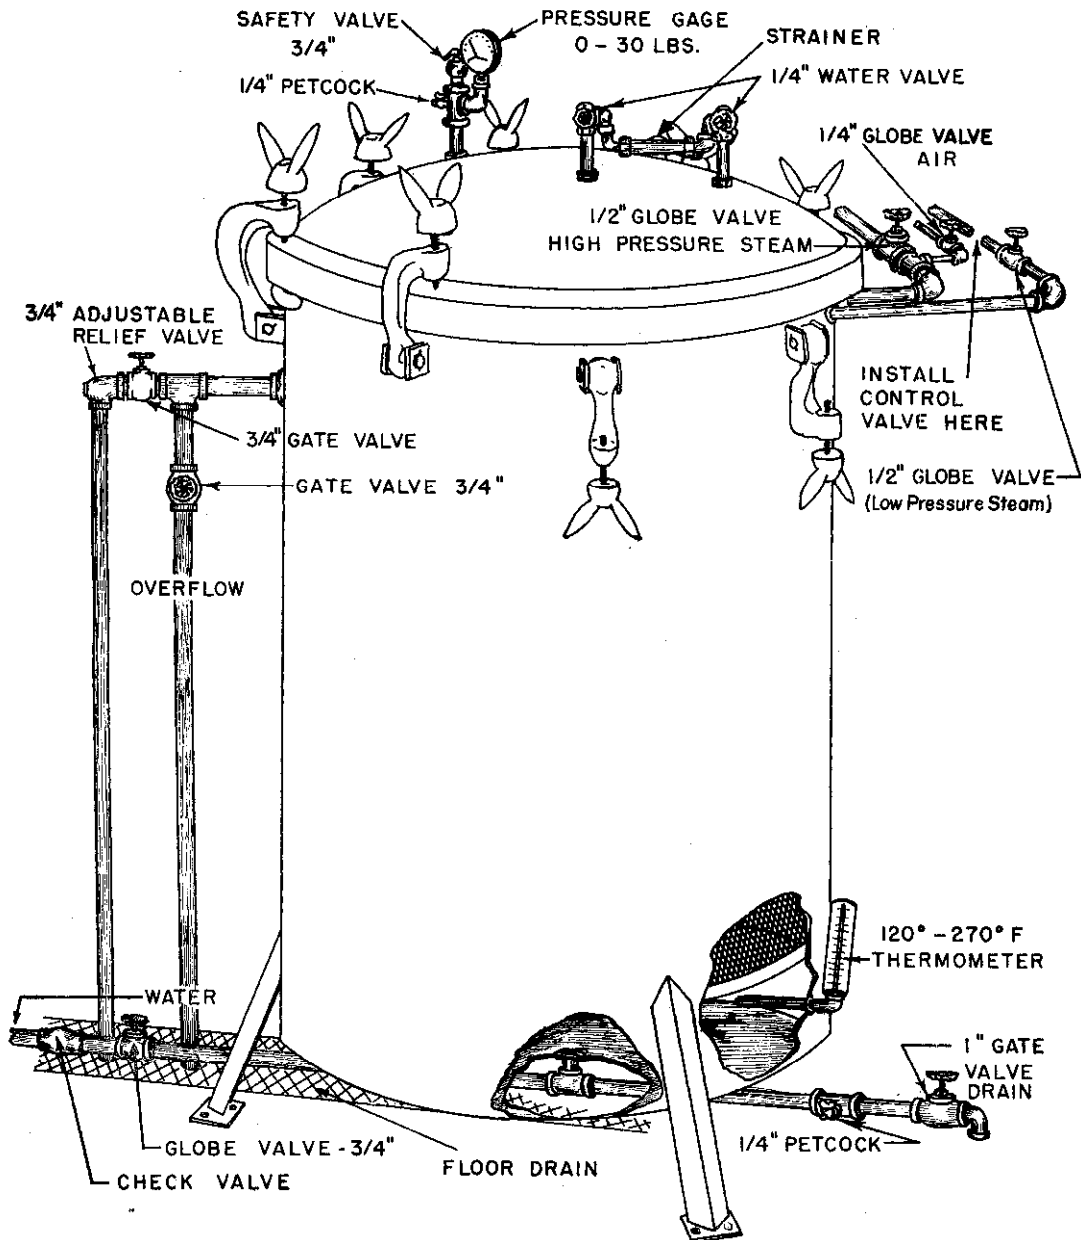
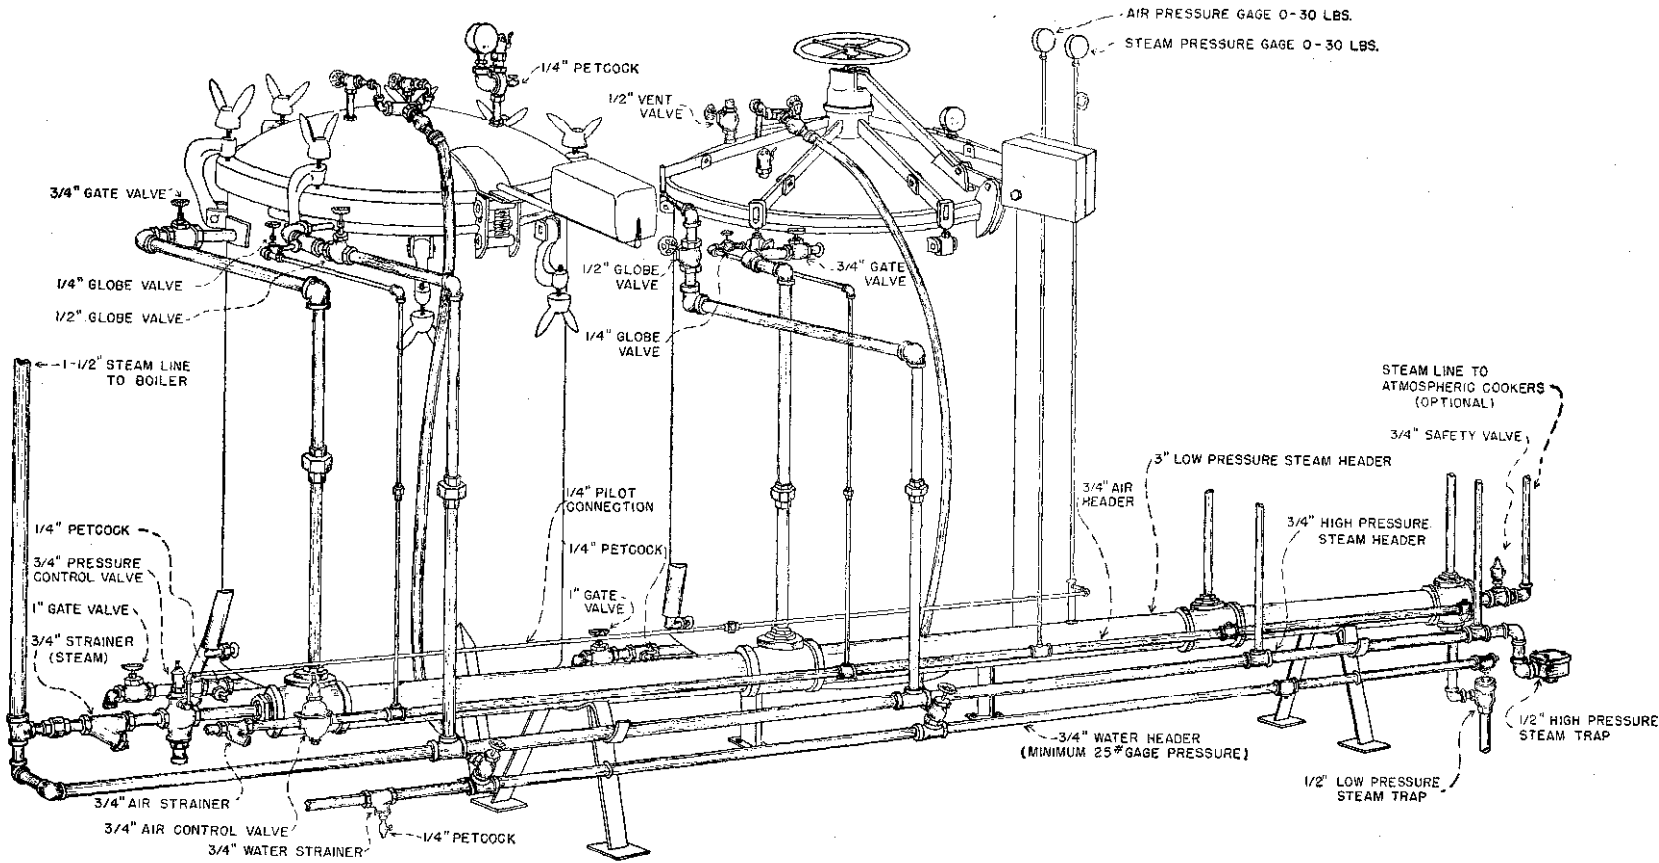

Figure 9.—Retort for glass jars and tin containers of all sizes.
Figure 10.—Piping arrangement to a battery of retorts for processing and pressure-cooling glass jars and small-size tin containers.
Figure 9 shows the same retort with added facilities for pressure-cooling No. 10 tin containers. Water is brought in at the bottom as well as at the top of the retort to speed the cooling operation.
A satisfactory method for installing a battery of retorts is shown in figure 10. It is a practical method for use in community canning centers, as one automatic control valve on a common header regulates the temperature of all of the retorts in the line. The low-pressure steam header must be at
least 3 inches in diameter. This size of header will furnish an adequate supply of steam to as many as six retorts. The header is assembled in the desired length with threaded pipe connections (figs. 10 and 11A), or it may be made from a single pipe with nipples welded at the take-off points (fig. 11B.) To facilitate the removal of condensate, the header is sloped  $\frac{1}{2}$  inch per 10 feet toward the steam trap. The pop safety valve, set at 15 pounds pressure, will prevent the building up of excessive pressure in the header. The  $\frac{3}{4}$ -inch connecting line between the low-pressure header and the retort is equipped with a gate valve, rather than a globe valve, so as to reduce resistance to the steam flow during processing.
For maximum efficiency use the sizes of pipe indicated for steam, air, and water. Place the header pipes close to the retort line and cover the steam header pipes with asbestos or any suitable insulation. Fit the steam, air, and water lines between the headers and retorts with the proper kind of hand valves specified in figure 10. These valves should be of the right sizes and designed for the purposes intended. Do not use water valves on steam lines or vice versa. All valves used should be constructed of noncorrosive metal, preferably bronze. They should be built to withstand pressure up to 125 pounds per square inch and have replaceable seats, plugs, or discs. If the working parts of the valves are replaceable the cost of maintaining the valves will be greatly reduced.
Retorts installed as shown in figure 10 may be used for processing and pressure cooling glass jars or small-size tin containers. If No. 10 cans are also used it will be necessary to add the extra piping facilities shown in figure 9.
The proper installation of a back-pressure pilot-operated valve to control the temperature in a battery of retorts is shown in figure 10. The valve is installed on a  $\frac{3}{4}$ -inch steam line between the main steam supply line and the 3-inch header. To enable the valve to operate at peak efficiency, the following should be kept in mind: (1) The length of the pipe between the main steam line and the valve, and between the valve and the header, is kept short; (2) a strainer is installed between the main steam line and the valve; (3) the pilot opening on the valve is connected to the header by means of a  $\frac{1}{4}$ -inch feeler line to enable the valve to respond quickly to pressure changes in the header; and (4) a steam trap is installed on the high-pressure steam header to remove condensate, thus insuring a good-quality steam.
Figure 11 shows two hook-ups for an air-actuated temperature-control valve. The hook-up shown in figure 11A is for the same steam header as that shown in figure 10. The hook-up shown in figure 11B is an alternate arrangement on a welded steam header. Either hook-up is satisfactory, but in figure 11A the thermal bulb is installed in a plate welded in the end of the header rather than in a screwed fitting. This welded installation eliminates the mass of metal which otherwise would surround the bulb and act as a source of heat, thus delaying the response in the controller when the temperature in the header drops.
For best results use a  $\frac{3}{4}$ -inch air-header pipe between the compressor and the retorts. However, if there is an abundant supply of air a  $\frac{1}{2}$ -inch pipe will be adequate. Reduce it to  $\frac{1}{4}$  inch before it enters the retort. Install the air-control valve near the retort assembly as shown in figure 10.